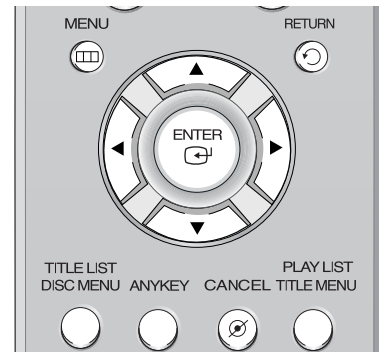

Fig. 3-7 Remote Control
- 4) Press the **ENTER** button on the remote control (Fig. 3-7).